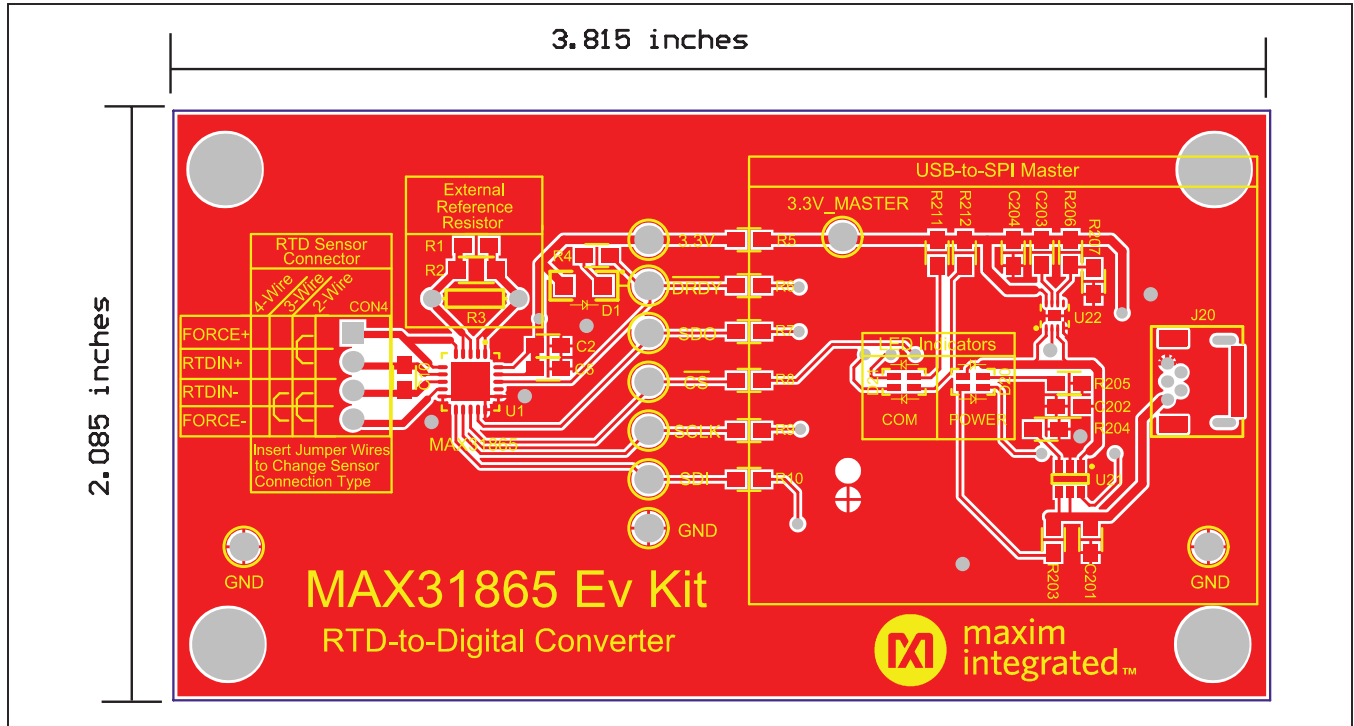

Figure 6. MAX31865 EV Kit PCB Layout—Top
- 1) Verify the two jumper wires (included) are properly secured in the terminal block in accordance with the 2-wire RTD Sensor Connector diagram on the PCB's silkscreen (Figure 6).